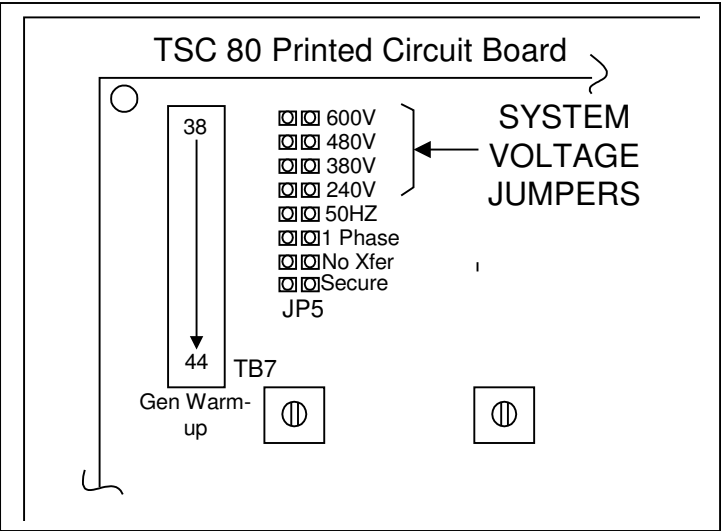

Figure 2
5. Change voltage jumper setting to desired system voltage (Refer to Figure 2).